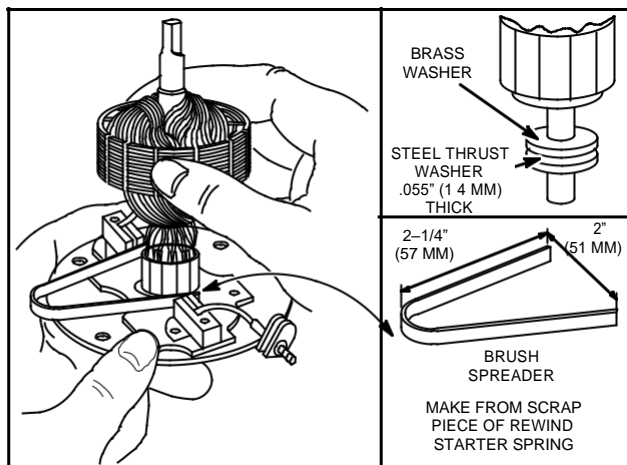

Fig. 658 – ASSEMBLING ARMATURE TO END CAP
1. Insert brush springs and brushes in holders as far as possible, and hold them in this position with tool shown in Fig. 658.
3. Slide armature shaft into end cap bearing, Fig. 658.